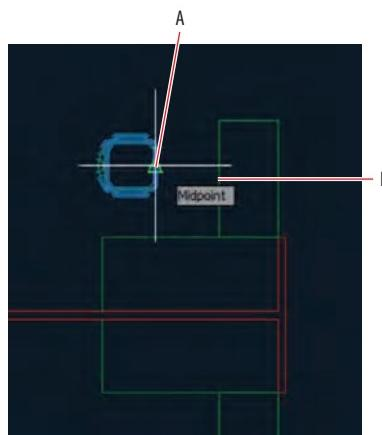

FIGURE 4.11 Selecting the base point for a move
4. Right-click the Object Snap toggle in the status bar and choose Midpoint from the context menu if it is not already selected. Click the base point at the midpoint of the front of the chair (point A in Figure 4.11).
5. Click the second point (B in Figure 4.11). The chair is moved precisely to the midpoint of the desk edge.
7. Click the Copy tool on the Modify panel. Select the chair you just moved and press Enter twice. Select the midpoint of the desk (point B in Figure 4.11) as the base point and then click the midpoint of the corresponding mirror image desk below in the same furniture group as the second point. Press Enter to end the COPY command.